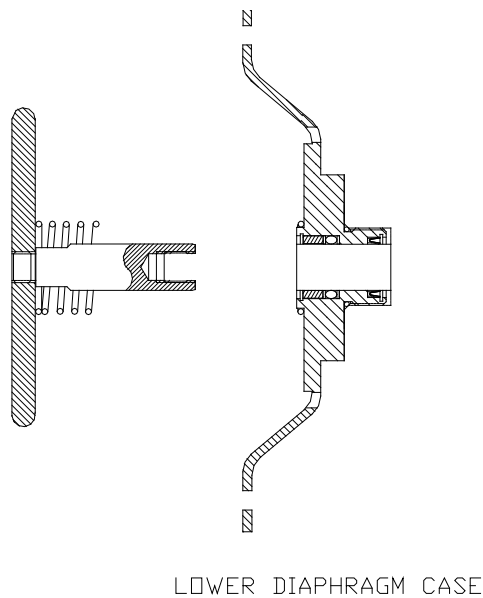

FIGURE 9
3.2.10 Carefully push the shaft #8 through the lower diaphragm case until the diaphragm plate #3 clears the case. Then, pull the plate and shaft out from the top (see Figure 9).